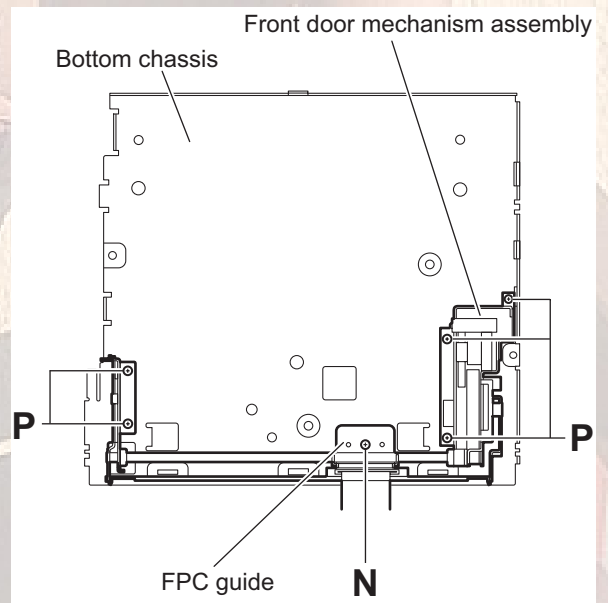

Fig.14
3.1.9 Removing the front door mechanism assembly (See Fig.14)